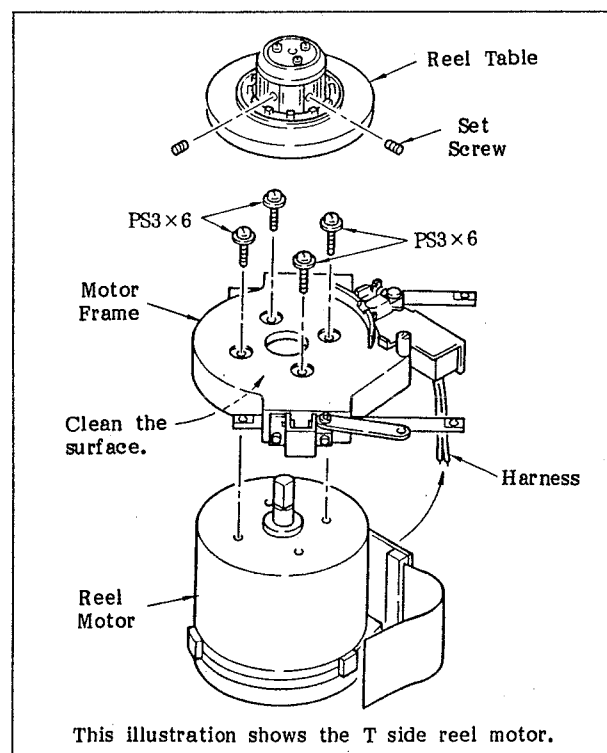

Fig. 6-32-2 Replacing the Reel Motor (2)
18. Loosen the two screws that hold the reel table and remove the reel table. (Fig. 6-32-2)